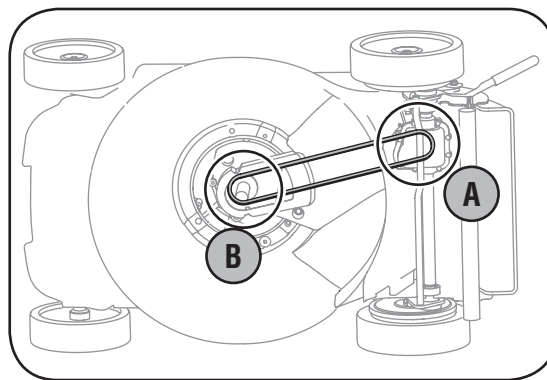

Figure 5-4
5. a. Remove the self-tapping screws that secures the engine baffle to the deck. See Figure 5-4. Remove engine baffle.
- b. Loosen self-tapping screw that secures deck baffle to the deck. See Figure 5-4.